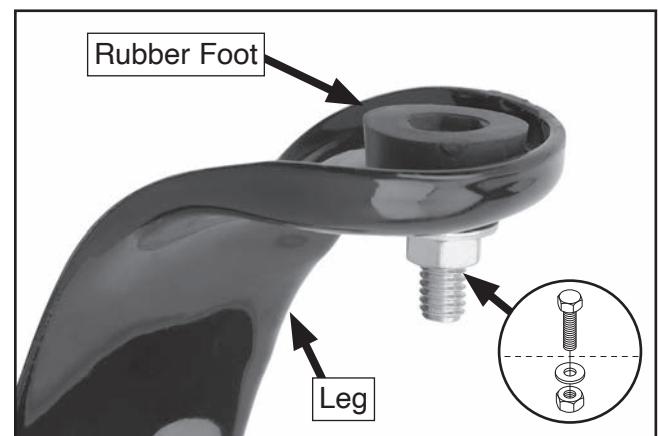

Figure 17. Foot fastened to bottom of a leg.
1. Insert a $\frac{5}{16}$ "-18 x 1" hex bolt through bottom of rubber foot, then insert foot into bottom of leg and fasten it finger tight with $\frac{5}{16}$ "-18 hex nut and $\frac{5}{16}$ " flat washer, as shown in **Figure 17**.